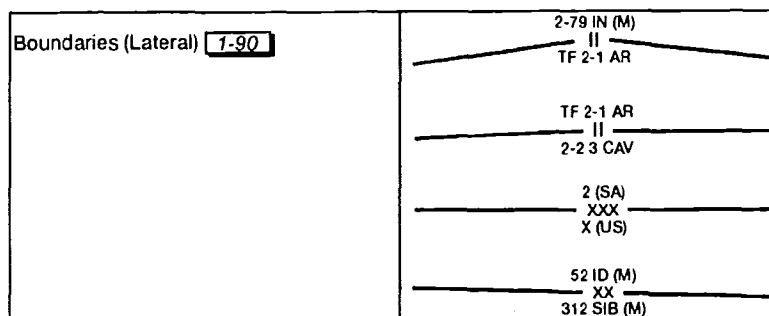

Figure 071-332-5000-3. Lateral Boundary
(1) An axis of advance arrow should extend only as far as this form of control is essential to the overall plan. Normally, it is shown from the line of departure (LD) to the objective following an avenue of approach. It indicates that the commander may maneuver his forces and place them freely to either side of the axis to avoid obstacles, engage the enemy, or bypass enemy forces that could not threaten his security or jeopardize the accomplishment of his mission. The commander ensures that such deviation does not interfere with adjacent units, that his unit remains oriented on the objective, and that the location and size of the bypassed enemy forces are reported to higher headquarters. Boundaries may be assigned as an additional control measure when using the axis of advance, if the situation so dictates.
(2) An axis of advance is shown below, identified by a code. It could be identified by a unit designation (figure 071-332-5000-4).